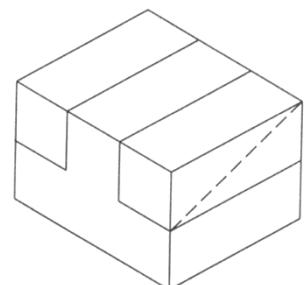

Figure 6.13: Views on Each
- (2) Now the views are drawn on the respective side of the isometric parallelepiped keeping appropriate relationship with each other (Figure 6.13). In drawing views the unnecessary lines may be avoided otherwise, the drawing will be clumsy. The horizontal lines of the view will be parallel to the isometric axes OB and OC while the vertical lines will be parallel to the isometric axis OA. Each line will be thin.